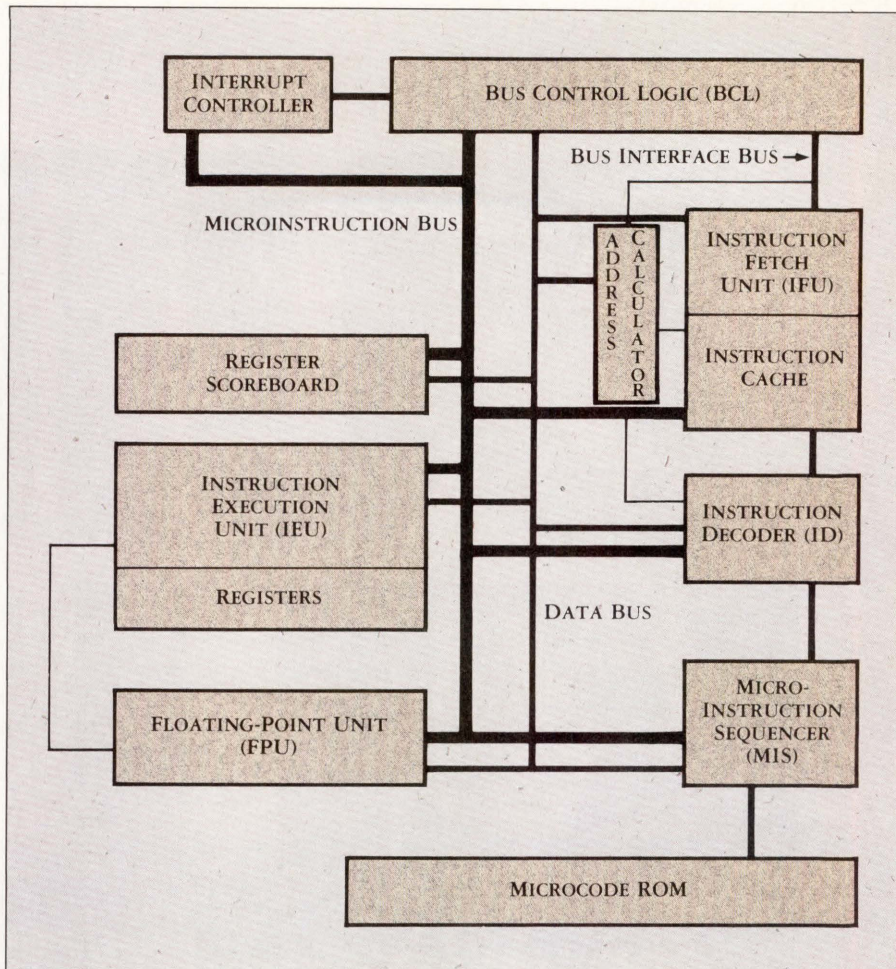

Figure 2. The multiple autonomous units and bus structure of the 80960KB implement the part's three-stage pipeline operation.
The pipeline structure of current 80960 implementations (Figure 2) is organized in three functional stages: fetching, decoding, and execution. The fetch stage includes bus control logic (BCL) and an instruction fetch unit (IFU). The decoding stage corresponds with the instruction decoder (ID) and the micro-instruction sequencer (MIS). The execution stage consists of the integer execution unit (IEU) and, in the 'KB and 'MC versions, a floating-point unit. An autonomous interrupt controller operates next to the pipeline. Future implementations of the 80960 will be similar to, but more elaborate than, the version described here.